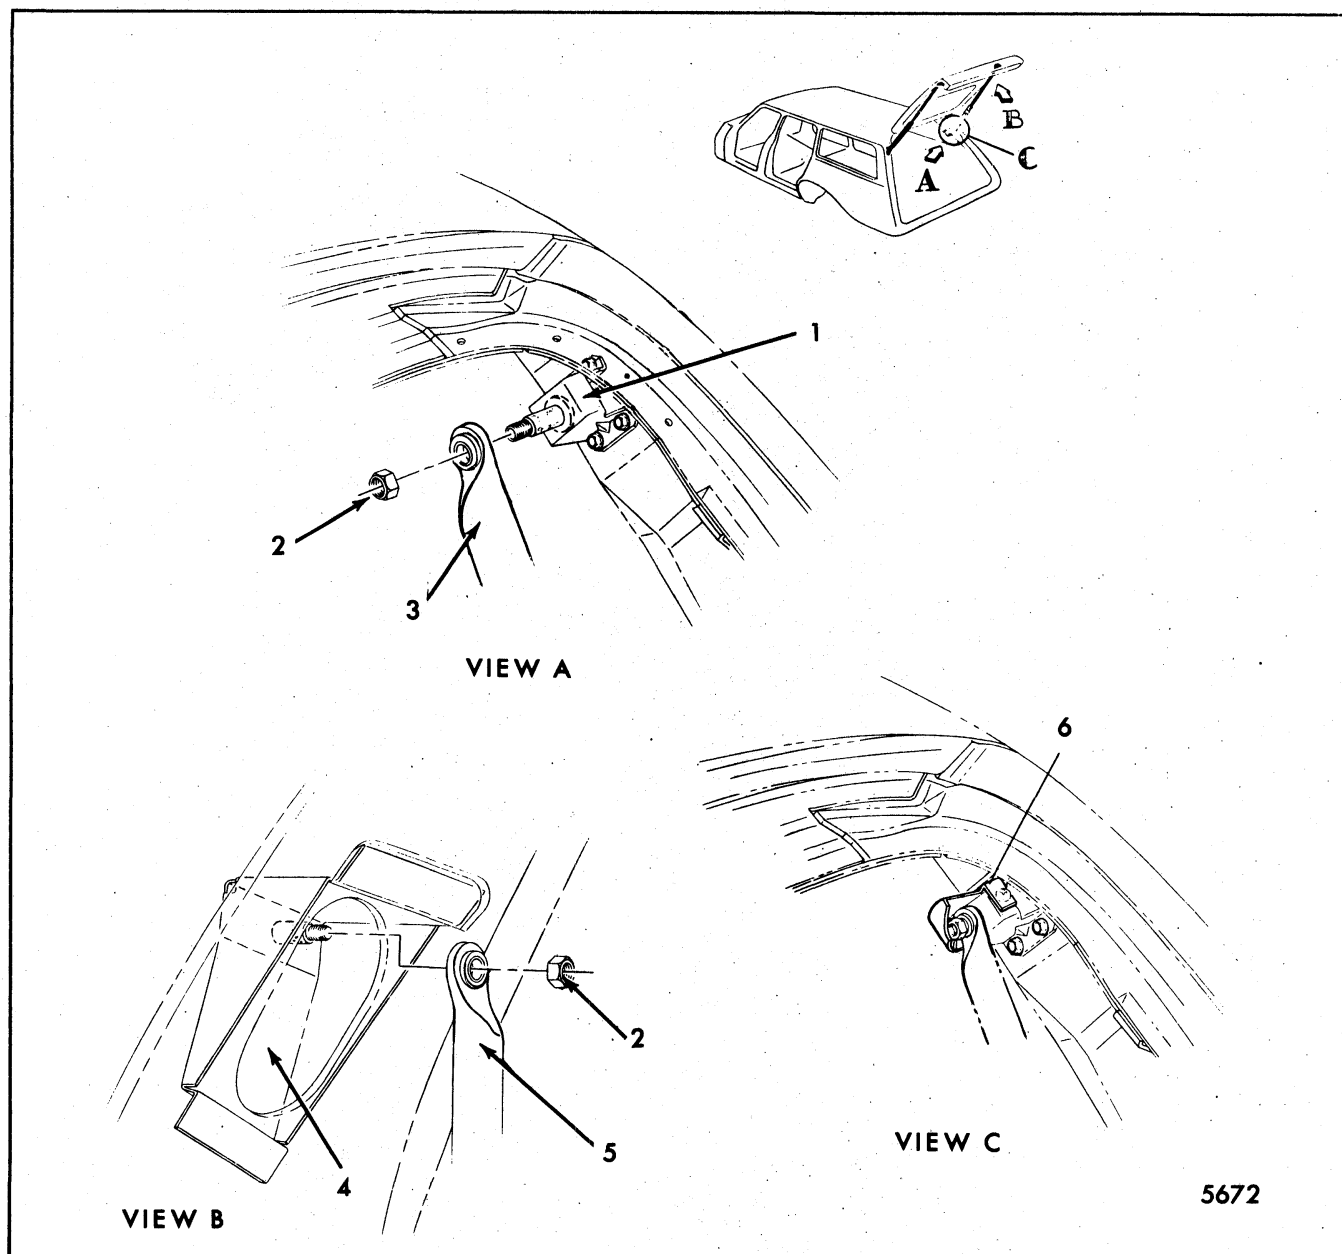

Fig. 7-100-Counterbalance Support Assembly Attachment
3. Remove pillar anchor plate cover screws and slide cover from pillar and/or plate (Fig. 7-100).
4. While helper supports gate in fully open position, remove counterbalance support assembly attaching nut and disengage from tailgate and pillar anchor plate (Fig. 7-100).
A shoulder bolt welded onto a bracket forms the anchor plate. The anchor plate is bolted to back body pillar near the roof at each side of the opening (View A, Fig. 7-100). A metal cover is secured by screws to the pillar anchor plate after the counterbalance support assembly is attached. The function of the anchor plate cover is to entrap the counterbalance support assembly if the anchor plate shoulder bolt shears or attaching torque-tight nut works loose (Fig. 7-100).